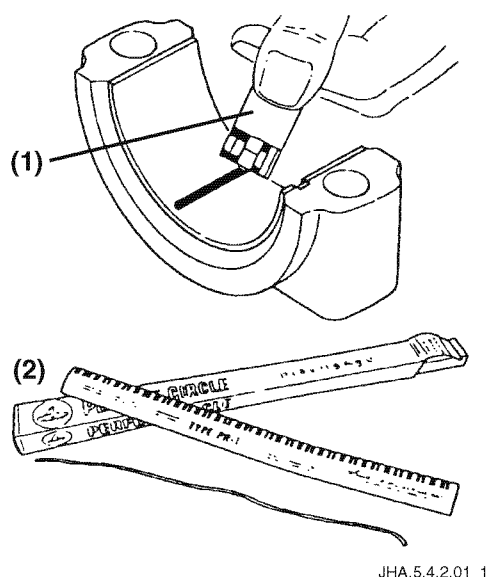

Figure 5-42
1. Lay the PLASTIGAGE (**Figure 5-42, (1)**) on the surface of the bearing insert on the connecting rod.
3. Remove the connecting rod and measure the PLASTIGAGE with PLASTIGAGE measuring paper (**Figure 5-42, (2)**).